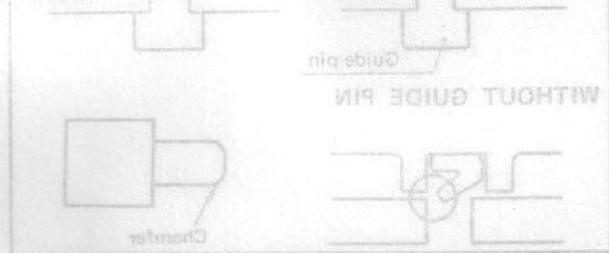

Fig. 11-5
d) Fit the guide pin, to prevent the piston cup from damage, into the stop bolt hole, as shown in Fig. 11-5.